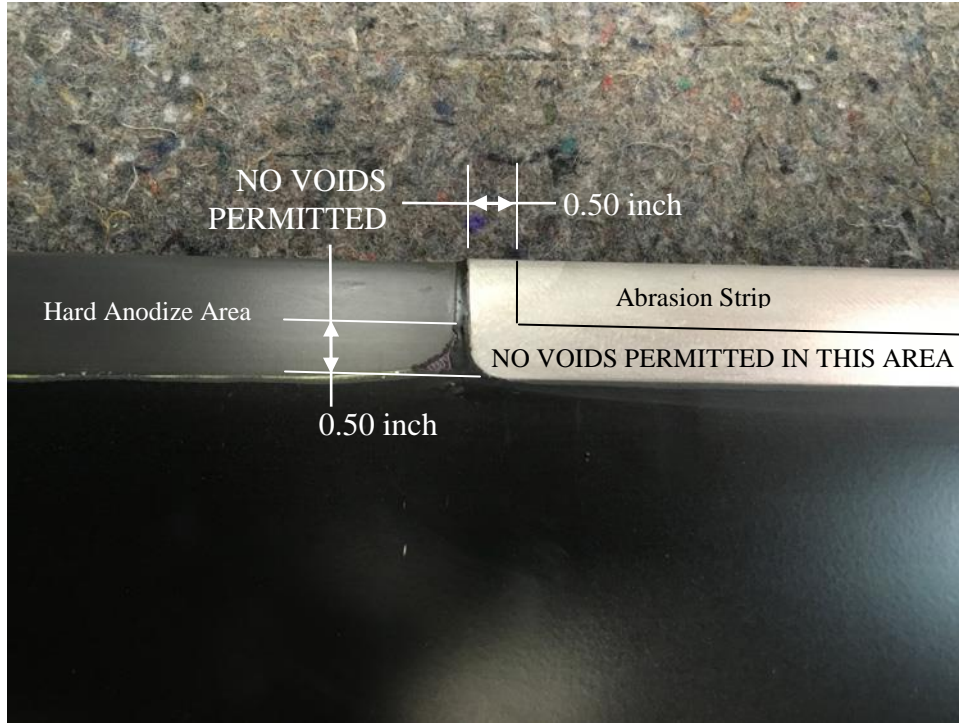
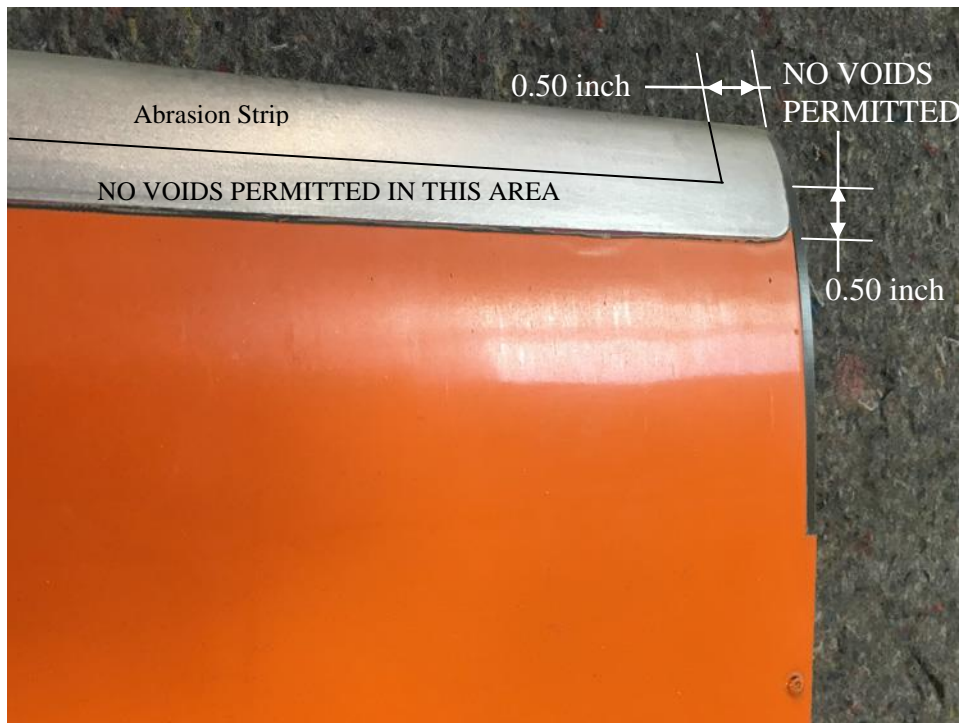

Figure 3 – Inboard Abrasion Strip Area
Figure 4 – Outboard Abrasion Strip Area
- 5) If any Void is found within 0.50 inches (12.7 mm) of any edge regardless of size, replace the subject blade with another airworthy blade, Reference **Figure 3** and **Figure 4** on Page 5. **Note: Do not attempt a field repair.**